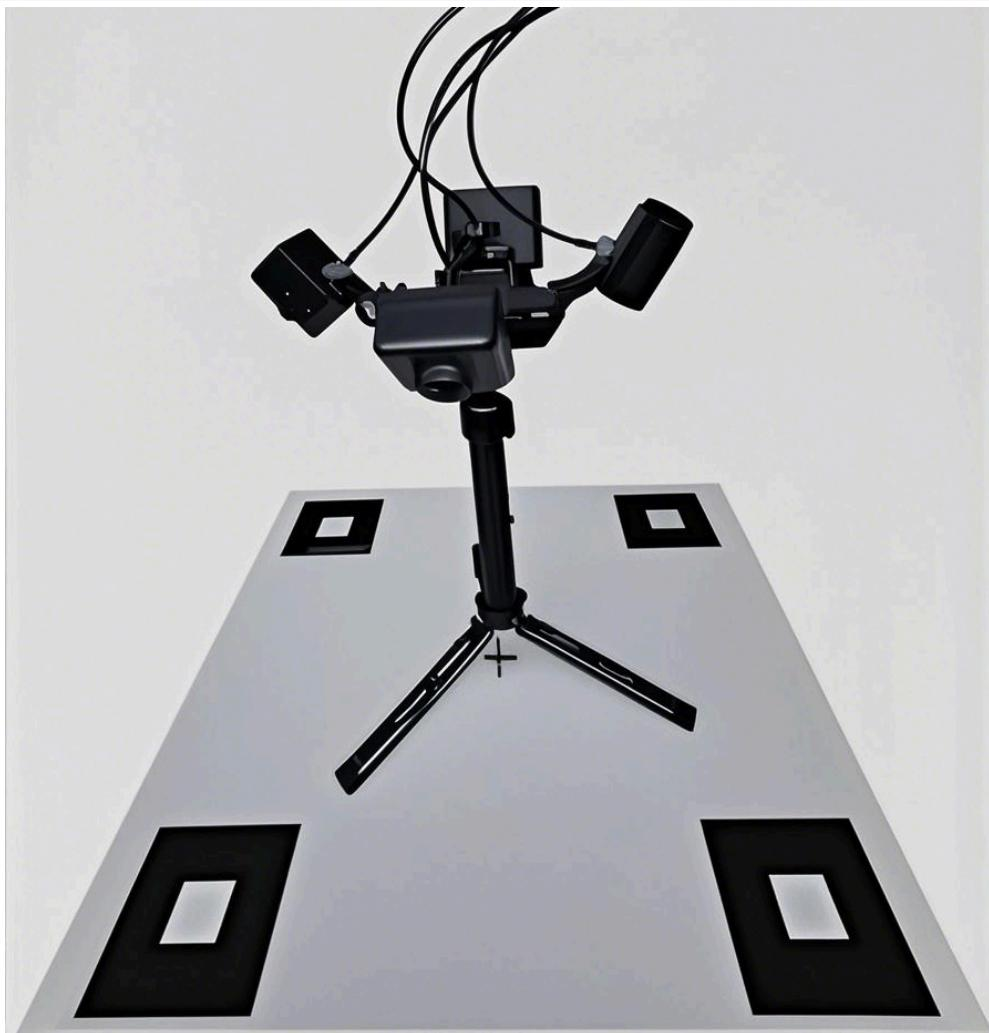

Figure 9. Extrinsic camera calibration setup
To perform the extrinsic calibration of the 4-camera system, a square poster of a known size is used (see Figure 9).
- Place the tripod with the cameras in the center of the big calibration pattern (see Figure 9).